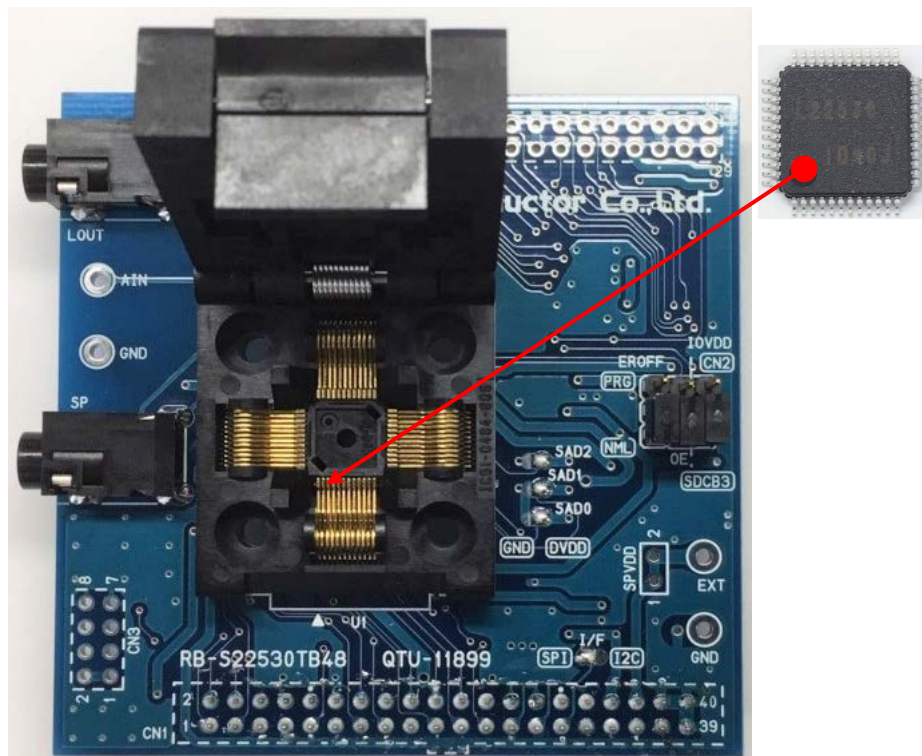

Figure 1 Outline Diagram
- Turn off the power when loading devices into the RB-S22530TB48. Be sure to orient the device correctly. Pin 1 direction is toward the lower left side when the lid is opened. The Figure 1 shows the setting directions of devices.